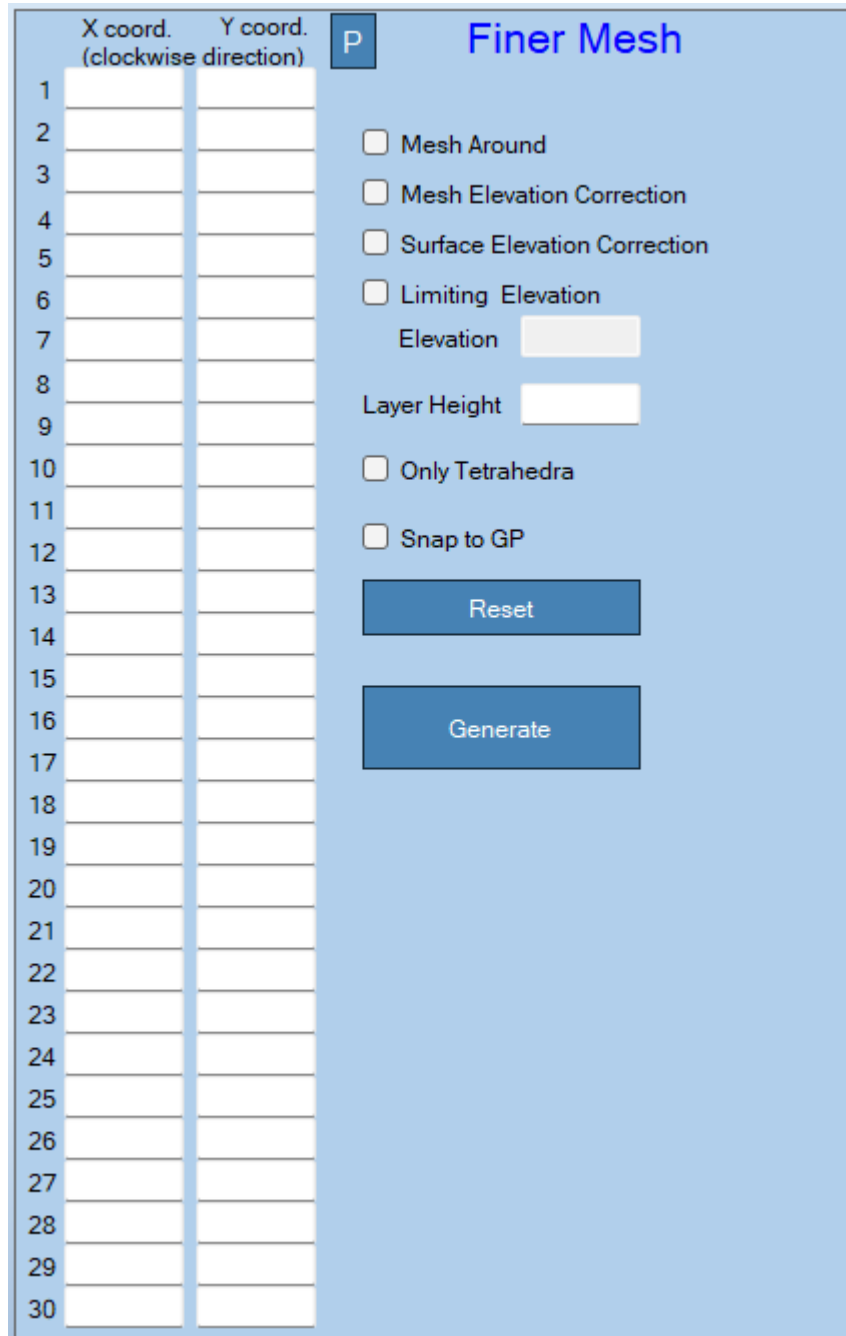

Figure 32: 3D Surfaces Menu – Finer Mesh.
- **3D Surfaces Menu, Finer Mesh:** This menu option (shown in Figure 32) allows for a mesh refinement with smaller elements, either over the entire model domain or over a portion of it. The new smaller elements have a quarter size of the source elements. This option does not require the execution of *3D Meshing*.